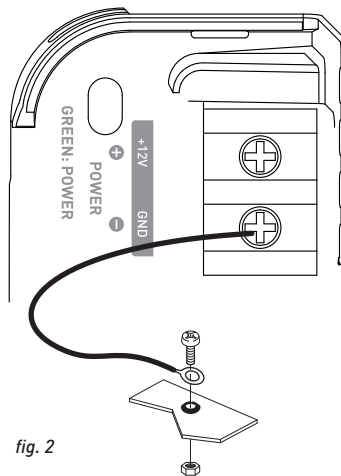

fig. 2
- 10 - Prepare the chassis ground by scraping off any trace of paint on the metal surface in order to ensure proper grounding. The grounding connections should also be as short as possible and ALWAYS connected to metal welded to the body or the chassis of the vehicle (fig. 2). The ground point which is generally chosen is the one connecting the negative terminal of the battery to the chassis of the vehicle.
**3.3.2** – Get hold of the negative power cable (-). This cable should be as short as possible and ideally should not be any longer than 1 metre, to ensure a perfect connection between the amplifier and the chassis of the vehicle. The cable and wire gauge must comply with the table in section 3.1. Find a suitable grounding point, then sand it to remove any traces of paint or other coating to maximising the quality of the contact point. Drill a hole in the metal that you have previously sanded, making a hole the same diameter as the screw you are using, making sure that there are no fuel lines, cables or any other sensitive vehicle devices nearby. Crimp the black Y-type spade terminal supplied to the end of the cable. Screw the black Y-type spade terminal firmly to the GND terminal on your FDS amplifier (fig. 2). Tin the other end of the cable and then crimp or solder it onto the intended spade terminal. Insert the screw through the spade terminal, then put the screw and the nut in place and screw tight. **(fig. 2)**